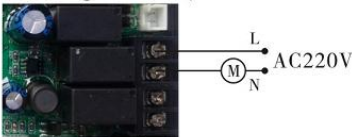

Figure3-4
D. When the signal output connector is connected with the water pump or solenoid valve, the working current is less than 5A. Its wiring refer to Figure 3-4.